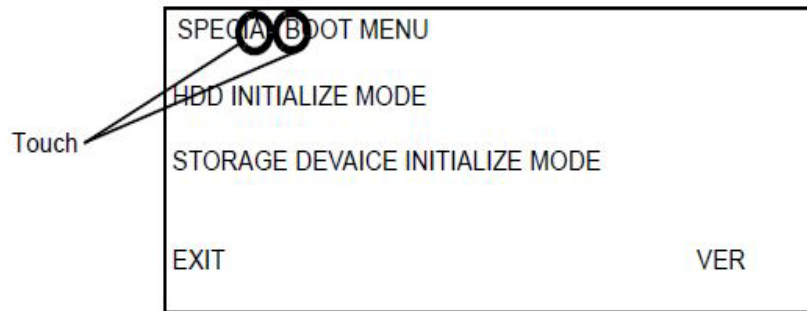

Figure 2 Accessing the next level of menu
3. Simultaneously touch the letters **A** in **SPECIAL** and **B** in **BOOT**, and the **Home** button. Do not hold any of the three locations, just touch/press then release simultaneously. See Figure 2.